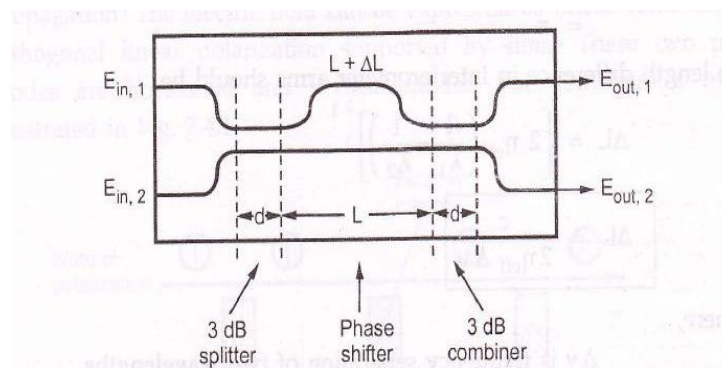

Fig. 7.3.1 Layout of  $2 \times 2$  passive Mach-Zehnder Interferometer
- A layout of  $2 \times 2$  passive MZI is shown in Fig. 7.3.1. It consists of three stages